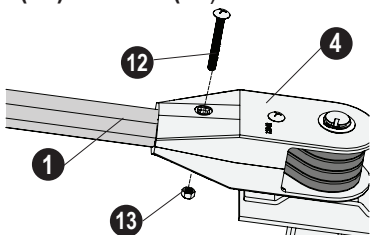

FIG. 107
- Remove **bolt (12)** and **nut (13)** from the **lower arm casting (4)**, as shown in Figure 107.
- Insert the **arm (1)** into the **lower arm casting (4)** and secure with **bolt (12)** and **nut (13)**.